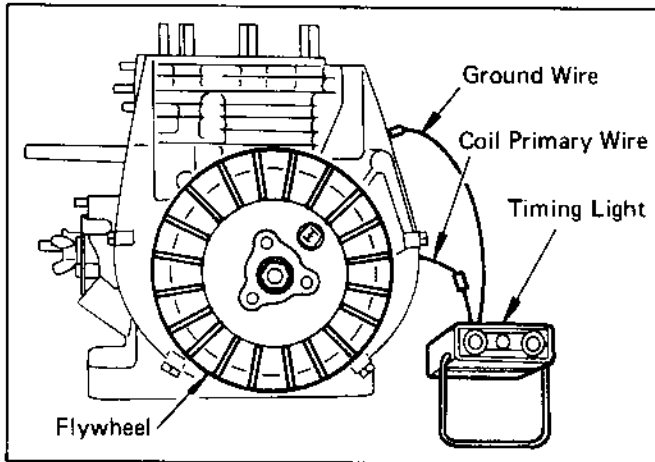

Fig. 7-3-1
With the Model EY14, EY18-3, EY25-2 and EY27-2 engines, the spark is timed to occur 23° before the piston reaches TDC on the compression stroke. This spark advance of 23° is controlled by the breaker point opening and this advance is obtained when the breaker point opening is adjusted according to the BREAKER POINT ADJUSTMENT to 0.35 mm (0.014 inch). However, the advance timing is more accurately adjusted through the following procedures using a timing light as shown in Fig. 7-3-1.
- 3) Connect one of the timing light leads to the coil primary wire and ground the other lead to crankcase. (See Fig. 7-3-1)